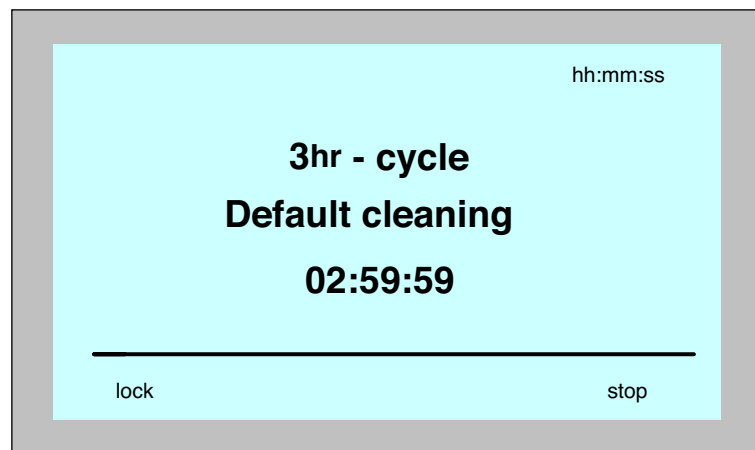
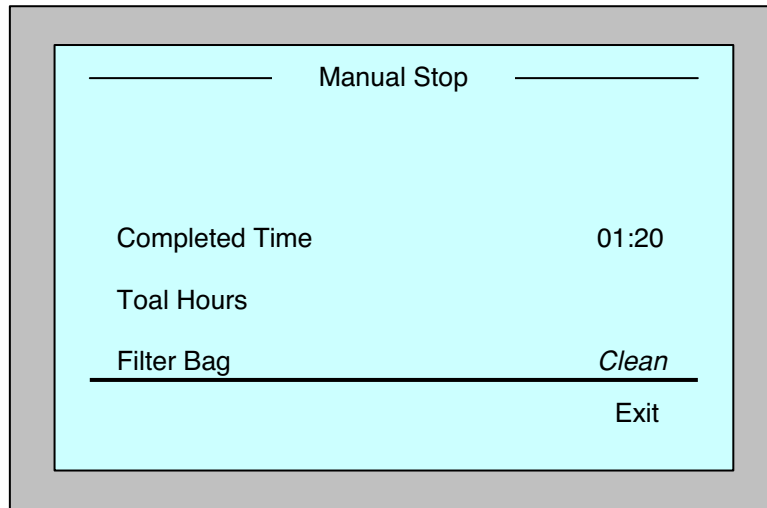

Figure 4: Countdown screen for 3 hour session
Figure 6: Manual Stop screen
The robot starts its cleaning cycle and the MMI displays the *Countdown* screen (Figure 4):
1. From the countdown screen (Figure 4), press **Stop**. The MMI screen displays the message: "Stopping robot – please wait". After 5 seconds the *Manual Stop* screen is displayed (Figure 6).